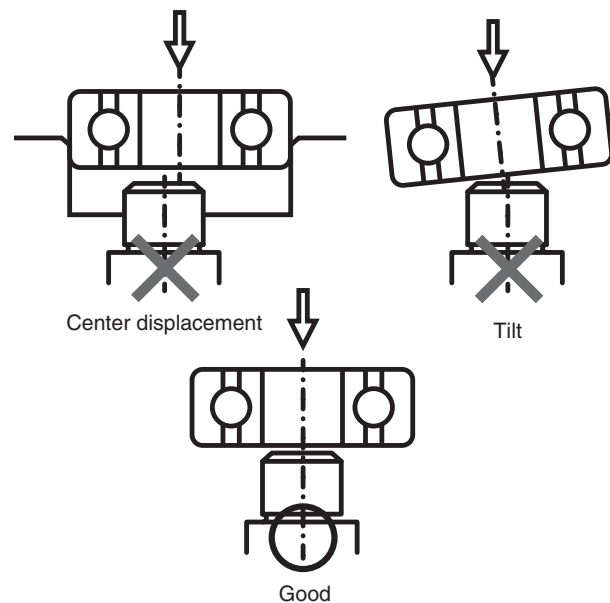

Figure 19-3 Handling in insertion
- Insert straight (Figure 19-3)